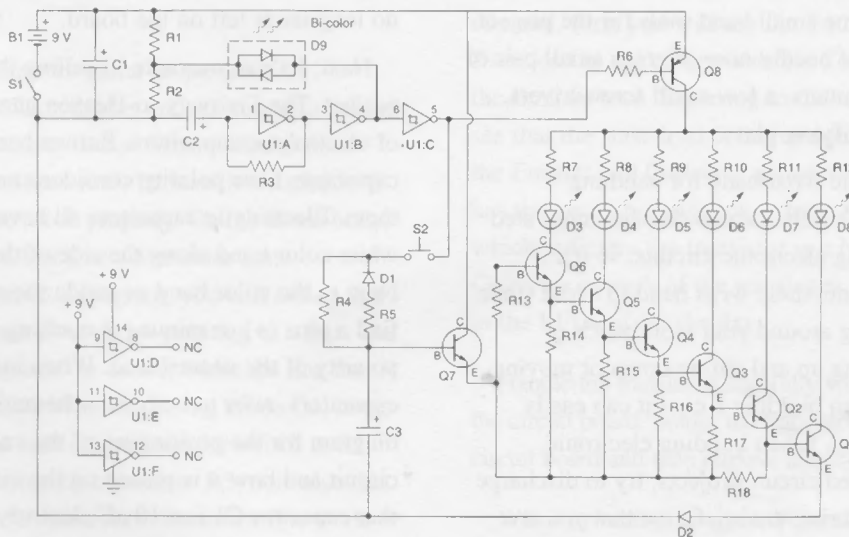
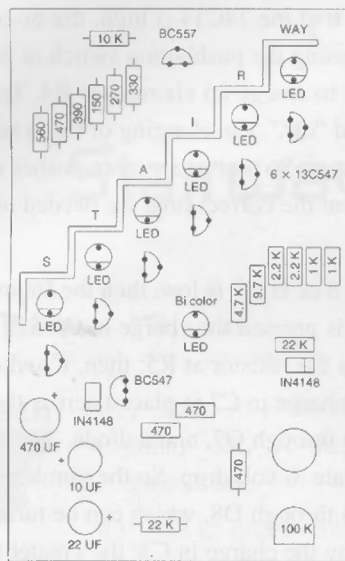

Figure 18-2 *Stairway-to-Heaven Game*
Figure 18-3 *Stairway-to-Heaven pictorial*
The heart of the Stairway-to-Heaven game is the three HEX Schmidt trigger inverter IC, as seen in the schematic diagram shown in Figure 18-2. Sections U1:a through U1:c form an oscillator which cycles at a rate by the 22 μ F capacitor at C2 and the value of the R3. The Schmidt trigger provides noise free inputs which give sharp switching transitions in the circuits operation from one state to another.
Place the schematic Figure 18-2 and pictorial diagram in Figure 18-3 in front of you and plug in your soldering iron. Locate and refer to Table 18-1, which depicts a chart showing the resistor color code chart. Most resistors will have three or four color bands on the body of the resistor. The first 0 to 9 number on the color code chart illustrates the resistor’s first digit. The second color band illustrates the second digit of the resistor code, and the third color band denotes the resistor’s multiplier value. The color bands start at one end of the resistor body, and go towards the center of the resistor body. If there is no fourth color band then the resistor has a 20% tolerance value, while a fourth silver color band denotes a 10% tolerance value. A fourth band which is gold in color notes a 5% tolerance value. So look in the resistor parts pile and try to find a resistor that has a (yellow) (violet) and (brown) color bands. The first digit is yellow or the digit (4), the second color is violet or the digit (7), and the third multiplier band is brown with a value of 100, so the first resistor at R1 is a 470 ohm resistor. Take this first resistor and place it on the circuit board at its proper location. Note that 470 ohm resistors are also used at R2, R5, R11. Install these resistors on the circuit board and solder them at their respective locations. Identify the remaining resistors and place them in their proper locations and solder them to the circuit board. Use your end-cutters to remove the excess resistors from the circuit board. Flush cut the resistor leads close to the circuit board, so that there are no long leads left on the board.